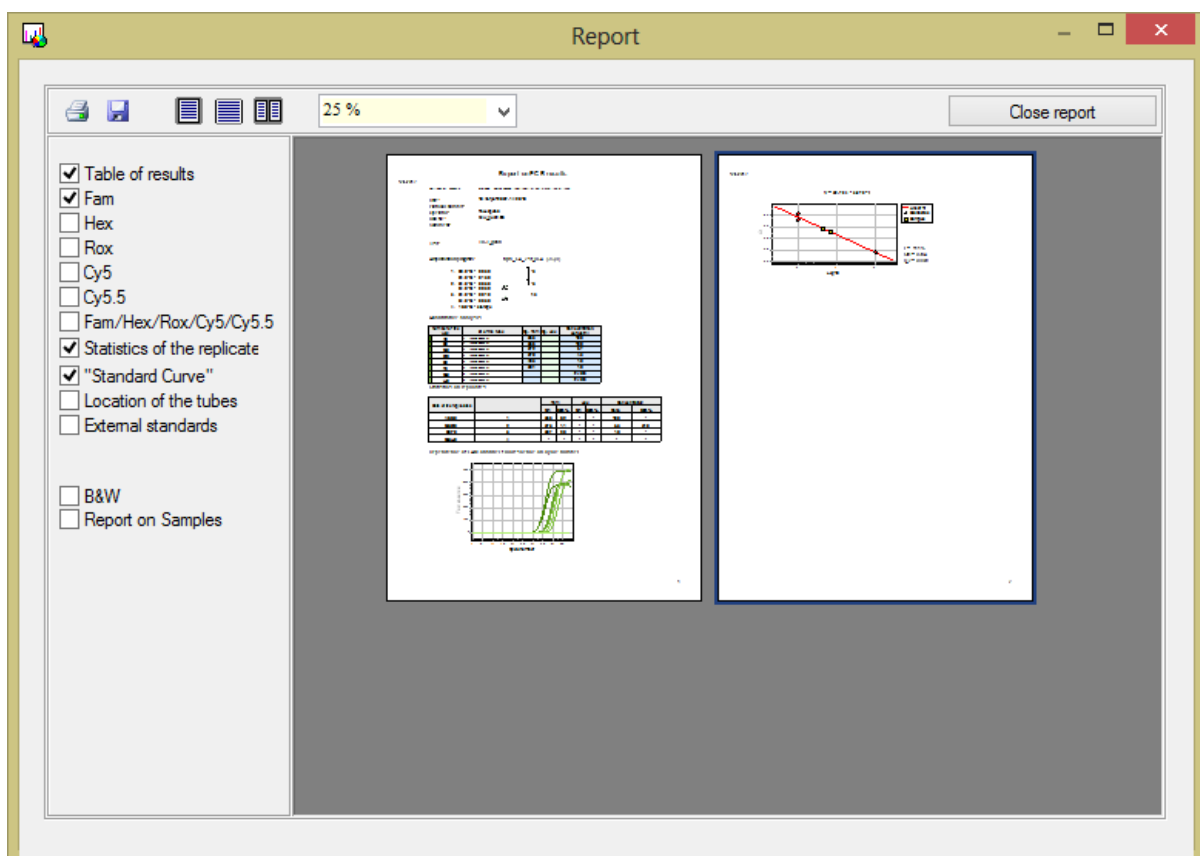

Fig.78 The "Report" window
1. Press the button  on the tab **Data analysis** in the window **Archive**. The **Report** window is opened (Fig. 78).